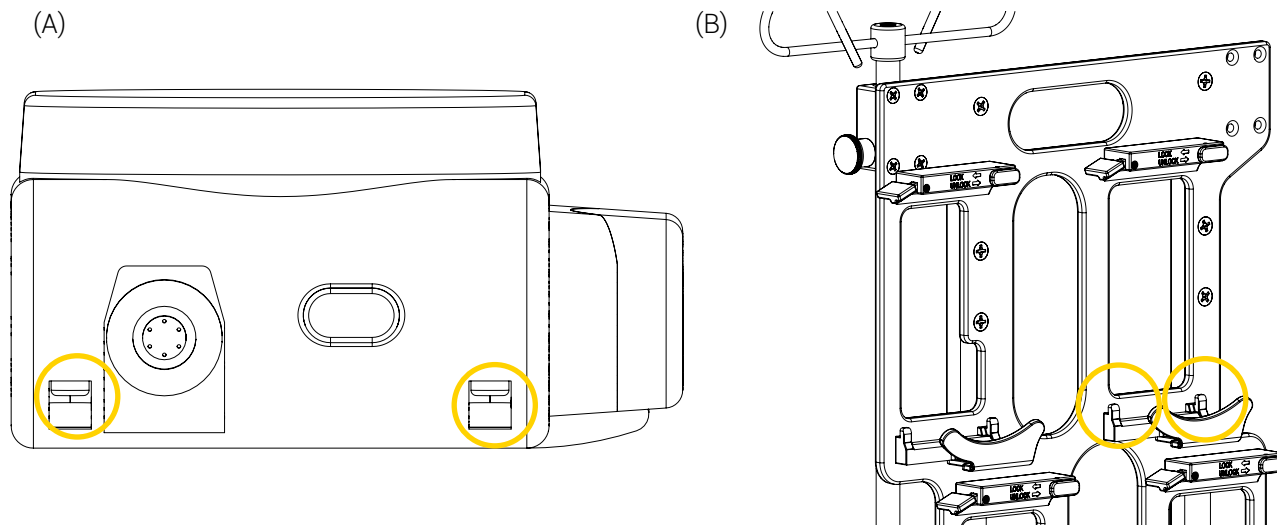

Figure 3: Installing the infusion pump (1 of 2)
2. Locate the two (2) cavities at the bottom of the infusion pump (Figure 3 A) and two (2) inserts at the bottom of the pump holder (Figure 3 B).